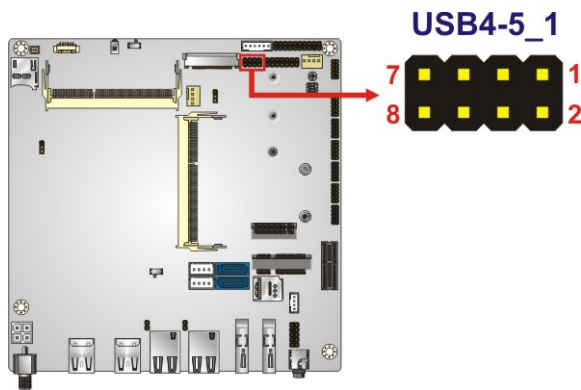

Figure 3-23: USB Connector Location
- CN Location:** See Figure 3-23